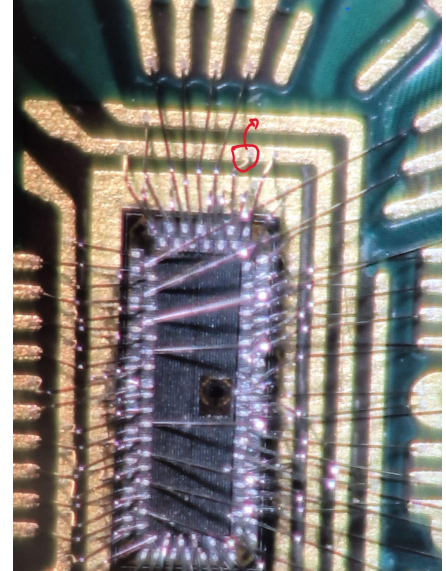

Figure 5. Required wired bond modification.
- Pin N3 on the PCB is connected to DVDD and should be connected to DVDD25. See Figure 5.